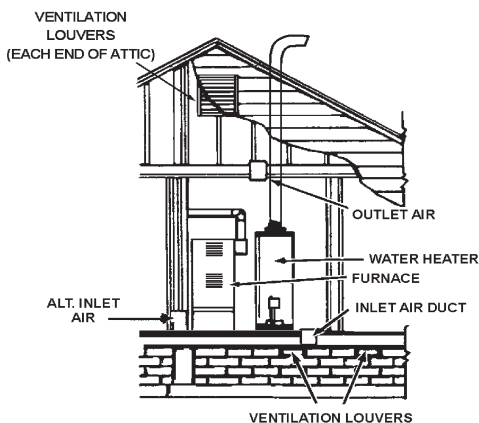

FIGURE 7.
B. ALL AIR FROM OUTDOORS: (See Figures 7, 8 and 9)
1. When directly communicating with the outdoors, each opening should have a minimum free area of 1 square inch per 4,000 Btu per hour (5.5 cm²/kW) of total input rating of all equipment in the enclosure, see Figure 7.